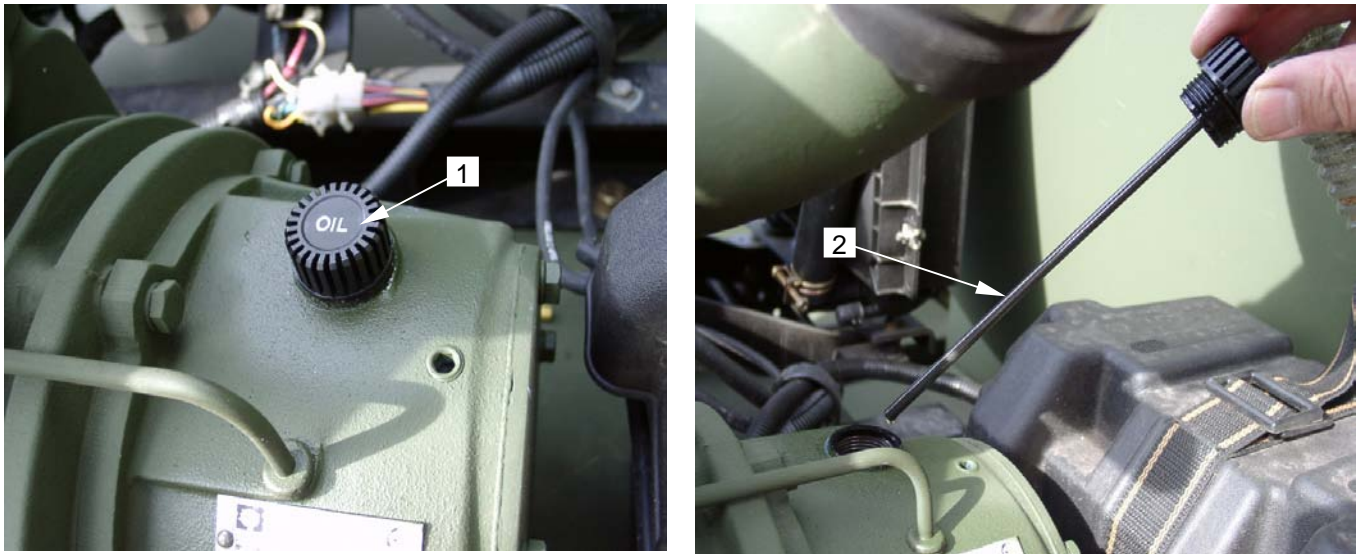

Figure 3. Vacuum Pump Lubrication Level
- b. To replace the oil discharged, remove the oil filler cap (**figure 3 item 1**) and check the vacuum pump oil level. Refill to the correct level as indicated on the dipstick (**figure 3, item 2**).